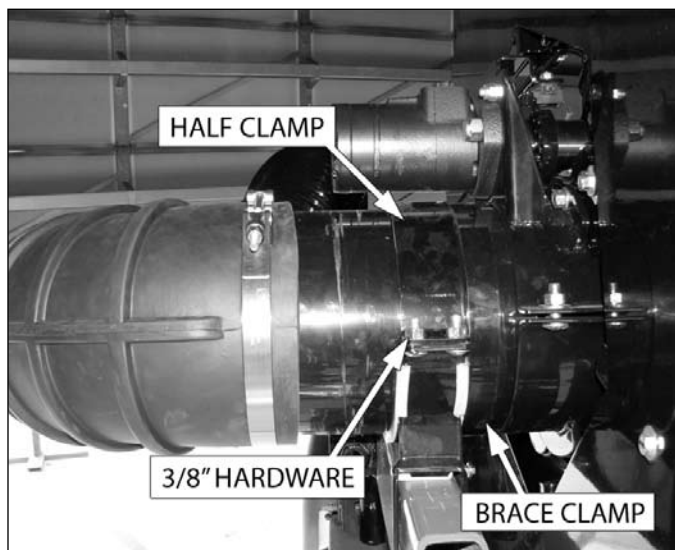

Figure 30, Reel to header installation
1. Set the assembled reel into the half clamps on reel support assemblies, so the brace clamps are inside of the reel support assemblies (Figure 30).